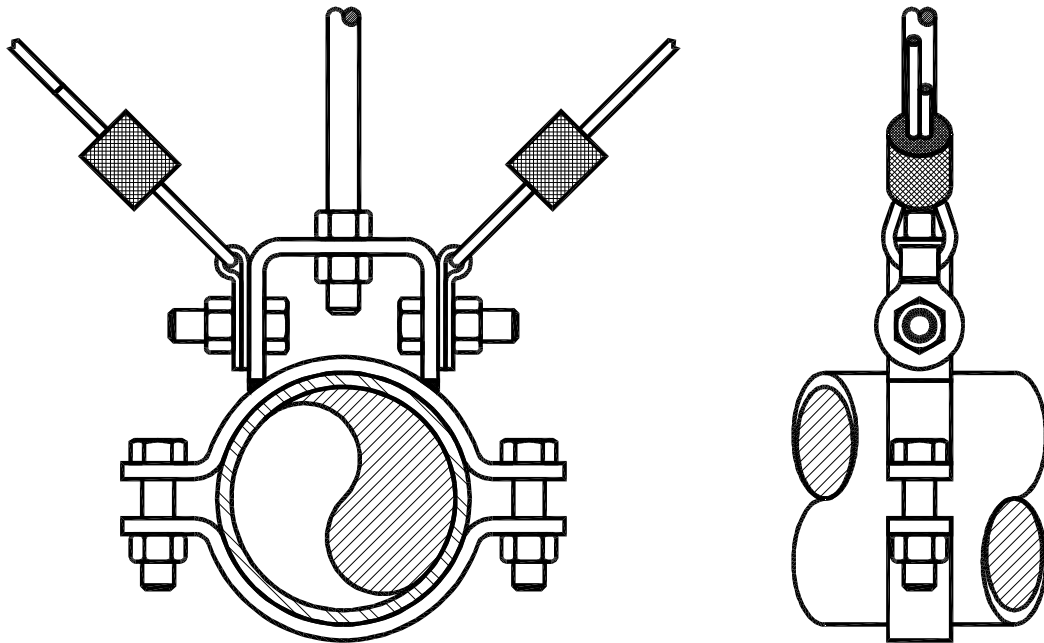
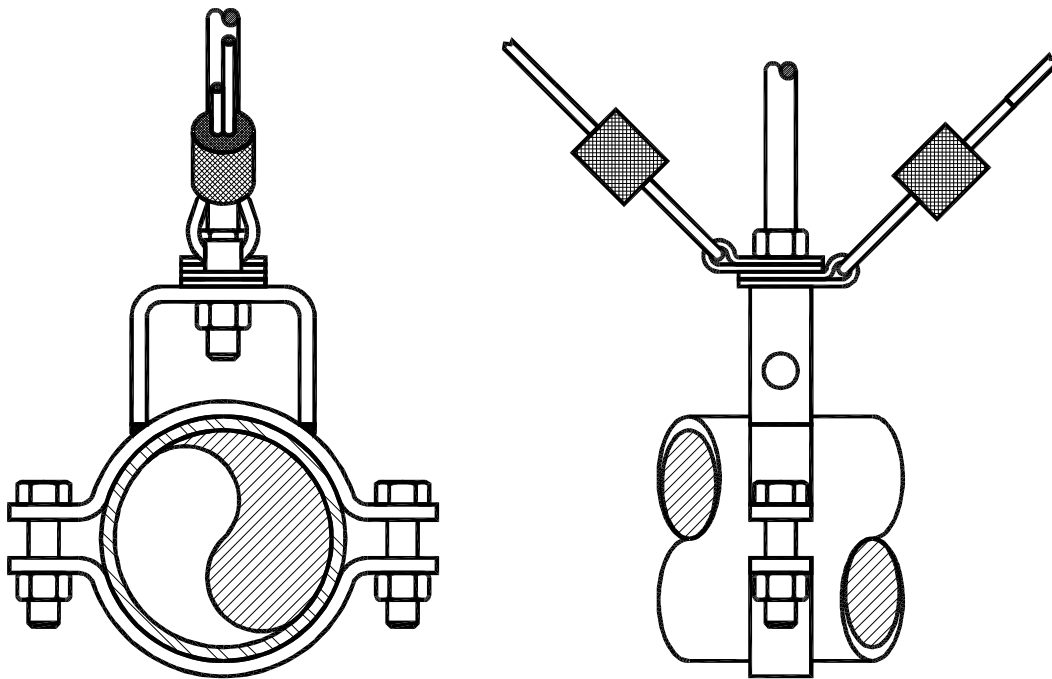
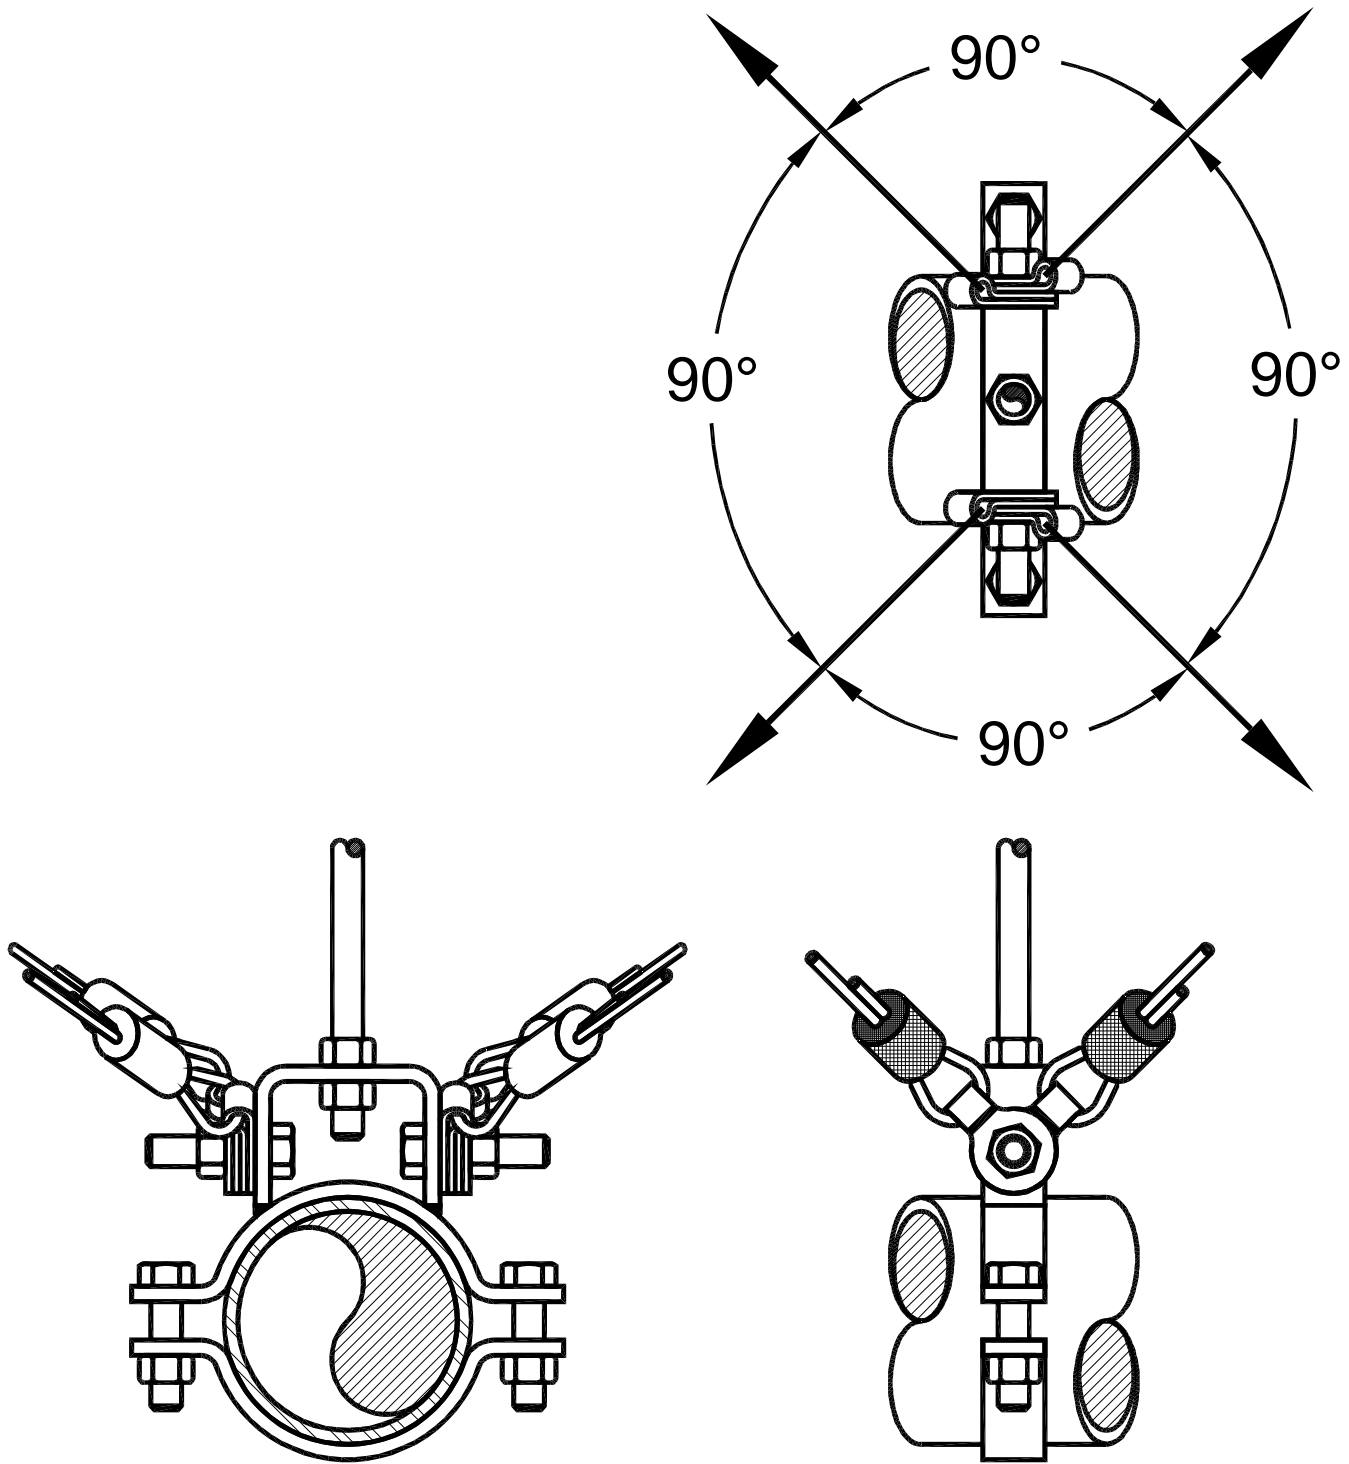

Figure I6-5; KSUA Brackets Attached to a Commercially Available Clamp Type Clevis Hanger – Transverse (T) Restraints
Figure I6-6; KSUA Brackets Attached to the Hanger Rod of a Commercially Available Clamp Type Clevis Hanger – Longitudinal (L) Restraints
Figure I6-7; KSUA Brackets Attached to a Commercially Available Clamp Type Clevis Hanger – Combined Transverse and Longitudinal (TL) Restraints
The commercially available clamp type clevis hangers shown in Figure I3-13 may be used with the KSUA brackets. Figure I6-5 shows this type of clevis hanger with transverse (T) seismic restraints. Figure I6-6 shows the use of this hanger type with longitudinal (L) restraints and Figure I6-7 shows have combined transverse and Longitudinal (TL) restraints may be attached to this type of clevis hangers.